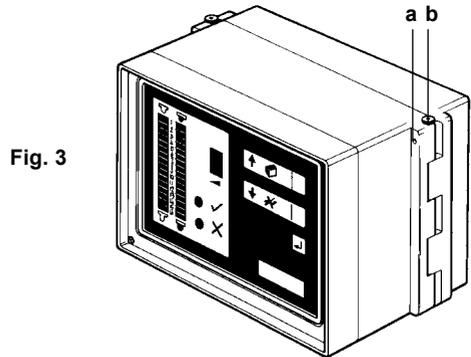

Fig. 3
1. Loosen the grub screws 'a' (Figure 3).
2. Remove the right hand hinge pin 'b' (Figure 3).